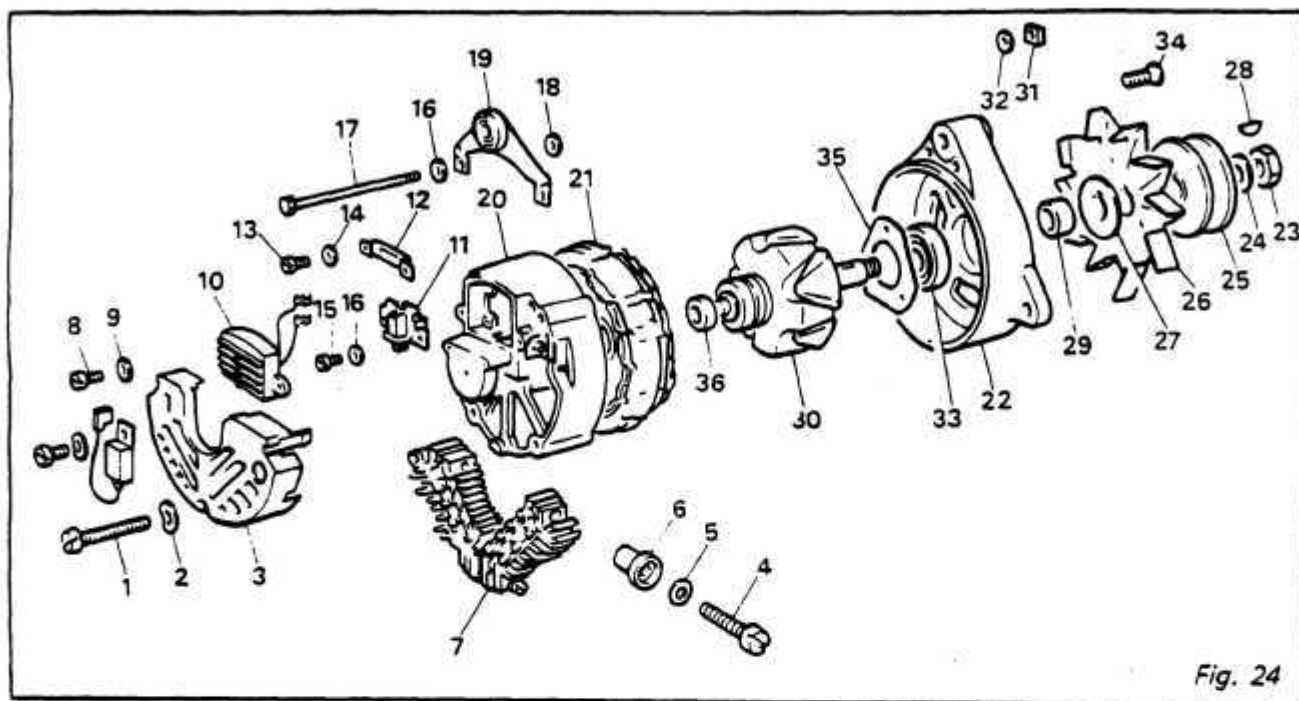

Fig. 24
REMOVING REGULATOR — Fig. 24
REMOVING THE DIODE CARRIER — Fig. 24
REMOVING THE BRUSH CARRIER — Fig. 24
REMOVING THE STATOR — Fig. 24
REMOVING REAR BEARING — Fig. 24
REMOVING THE ROTOR — Fig. 24
1. Remove regulator (10), brush carrier (11) and regulator feed plate (12).
2. Mark the relative position of rear housing (20), stator (21) and front housing (22).
3. Place an old fan belt around the pulley (25) and clamp the belt in vice jaws with the pulley (25) as close to the vice as possible. The friction and self wrapping action of the belt will provide adequate reaction to loosening the pulley nut (23).
4. Remove the assembly from the vice. Remove the nut (23), washer (24), pulley (25), fan (26), washer (27), key (28) and spacer bush (29).
5. Remove four through bolts (17), washers (18), attachment bracket (19), nut (31), washer (32), recessed in front housing (22).
6. Withdraw front housing (22).
7. Remove stator (21).
8. With suitable levers, remove rotor (30) from rear housing (20). Fig. 24